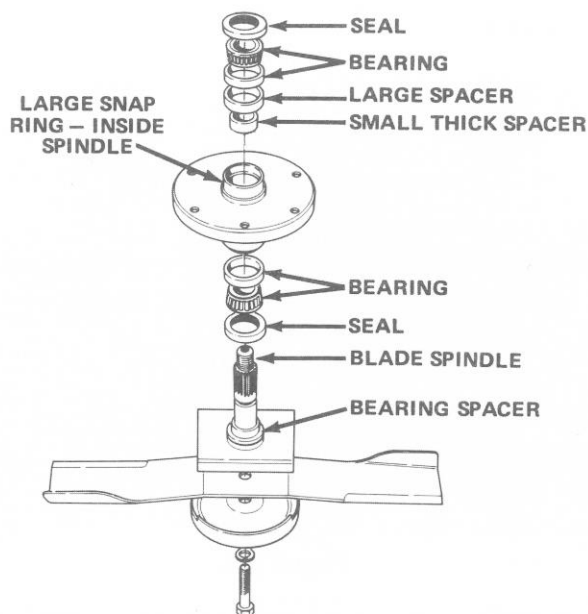
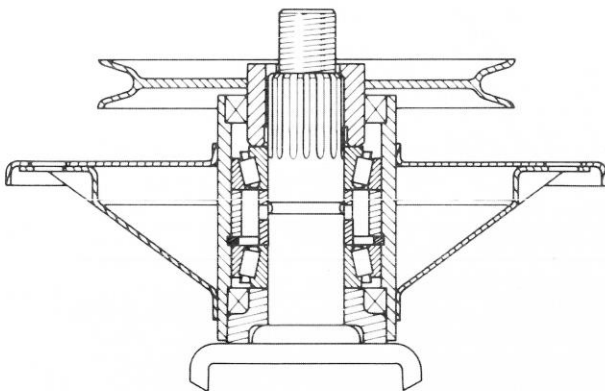
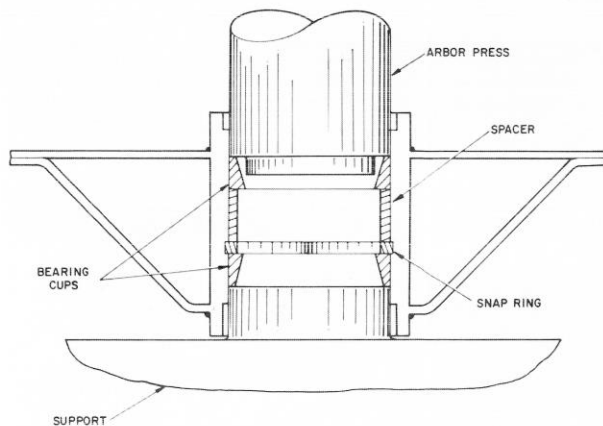

Figure 49
Figure 50
Figure 51
7. If spindle shaft will be replaced, remove blade-bolt, lockwasher, anti-scalp cup and blade from spindle shaft (Fig. 49). Otherwise, the blade and its other associated parts may be left on the spindle shaft.
8. Press spindle shaft out of spindle housing (Fig. 49), using an arbor press. Bearing spacer (Fig. 49) remains on spindle shaft as shaft is being removed.
9. The seals (Fig. 49) will be removed next; however, notice the lip of the seal. The lip of the upper seal faces inward, and the lip of the lower seal faces outward. Therefore, new seals must always be
10. Allow bearings and small thick spacer to fall out of spindle housing (Fig. 49).
11. Using a punch and hammer, drive both bearing cups (Fig. 49) out of spindle housing. Also drive large spacer (Fig. 49) out of housing.
1. Install large snap ring into groove in bore of spindle housing (Fig. 50). Assure snap ring is seated in the groove.
2. Using an arbor press, push the large spacer into top of spindle housing and tightly against the snap ring (Fig. 49). Spacer must contact snap ring to be sure of correct assembly of parts (Fig. 50).
3. Thoroughly oil cups and using an arbor press, push bearing cups — smallest ID first — into top and bottom of spindle housing (Fig. 49). Top bearing cup must contact spacer that was installed in step 2, and bottom bearing cup must contact
snap ring to be sure of correct assembly of parts (Fig. 50). Insure assembly is correct by supporting the first cup and pressing the second against it (Fig. 51).
4. Apply a film of grease on lip of both seals; then install bearing and seal into bottom of spindle housing (Fig. 50). Remember though, the bottom seal must have the lip facing outward (Fig. 49) not toward inside of spindle housing.
5. Slide small, thick spacer into spindle housing (Fig. 49). Then, install bearing and seal into top of spindle housing. Lip of the seal must face outward.
7. Slide bearing spacer onto spindle shaft. Carefully slide spindle shaft through spindle housing. Bottom seal and bearing spacer fit together when spindle is installed (Fig. 50).